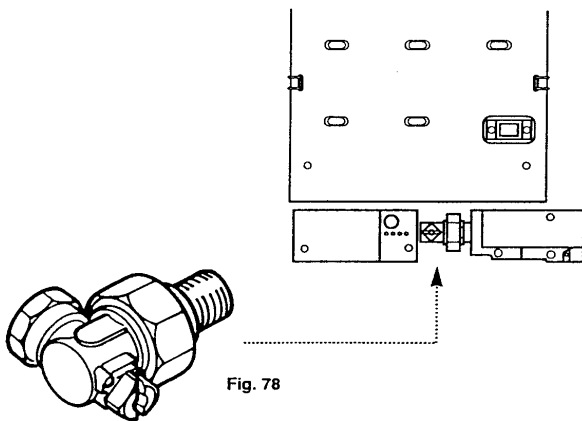

Fig. 78
1. Connection to the gas supply is R ½ ( ½ in BSPT internal) located at the rear of the gas cock-(Fig. 78).